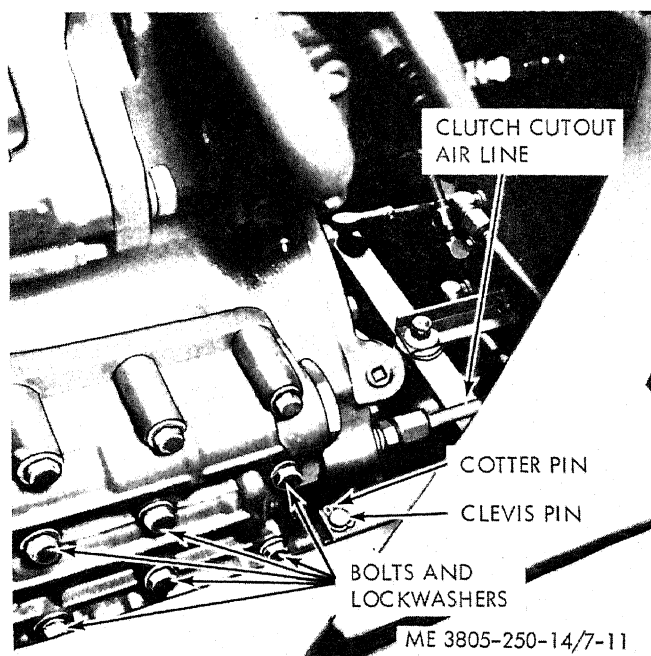

Figure 7-11. Transmission control valve, removal and installation.
(1) Disconnect the clutch cutout air line at the valve. Refer to figure 7-11.
(6) Install the main pressure regulator valve (3) a new gasket (2) and plug (1) in the valve body. Tighten the plug firmly. Install plug (10), new gasket (29), and plug (28), tightening the plugs firmly to prevent leakage.
(7) Install plug (10) if removed.
(8) Install spring seat (9) on cove side first on the main pressure regulator valve stem (3). Install the main pressure regulator spring (8), trimmer spring (7) and trimmer plug (6) into the valve bore. Install a new gasket (5) and plug (4). Tighten the plug firmly.
(9) Assemble cut-out valve spring (16) onto the clutch cut-out valve (15) and install them in the valve bore. Install seal ring (14) on cut-out plug (13), and install the plug in the smooth bore end of the retainer plug (11). Install a new gasket (12), and install the retainer plug assembly, tightening the plug firmly. Cover the exposed opening in the plug until the air line is connected to it.
e. Installation. Refer to figure 7-11.
(1) Install a new valve to transmission gasket, using oil soluble grease to retain it on the transmission.
(2) Position the valve on the transmission and secure it with fifteen $\frac{3}{8}$ -16 NC x $2\frac{1}{2}$ inch bolts, one $\frac{3}{8}$ -16 NC x 1 inch bolt, and sixteen $\frac{3}{8}$ inch lockwashers. Evenly tighten the bolts to 29 ± 3 pound-feet, starting at the center of the valve and working outward.
(3) Connect the shift linkage and insert clevis pin and its cotter pin.
(4) Connect the air line to the clutch cut-out retainer plug.